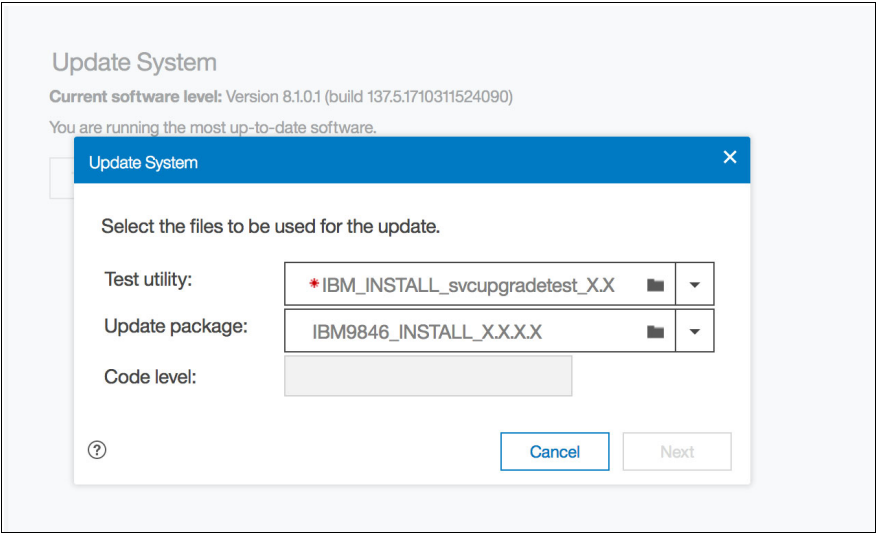

Figure 3-19 Update system file selection
4. The Update System wizard opens (Figure 3-19). Provide a name for the test utility and the update package. Use the folder buttons to select the correct file names and click **Update**.